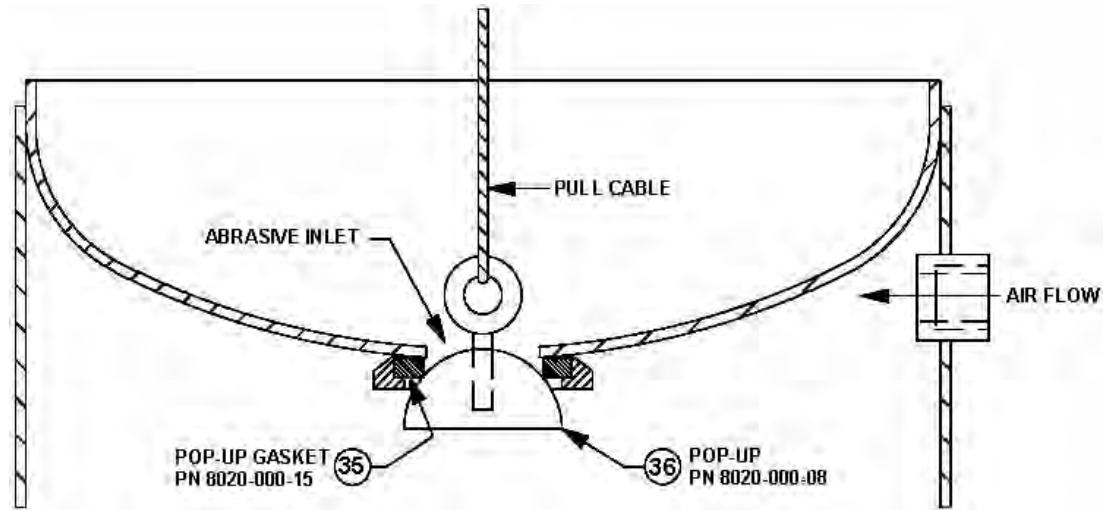

Figure 8.1 – Abrasive Inlet and Popup Detail
- e) Pull the popup against the gasket and check for proper seating as shown in Figure 8.1.